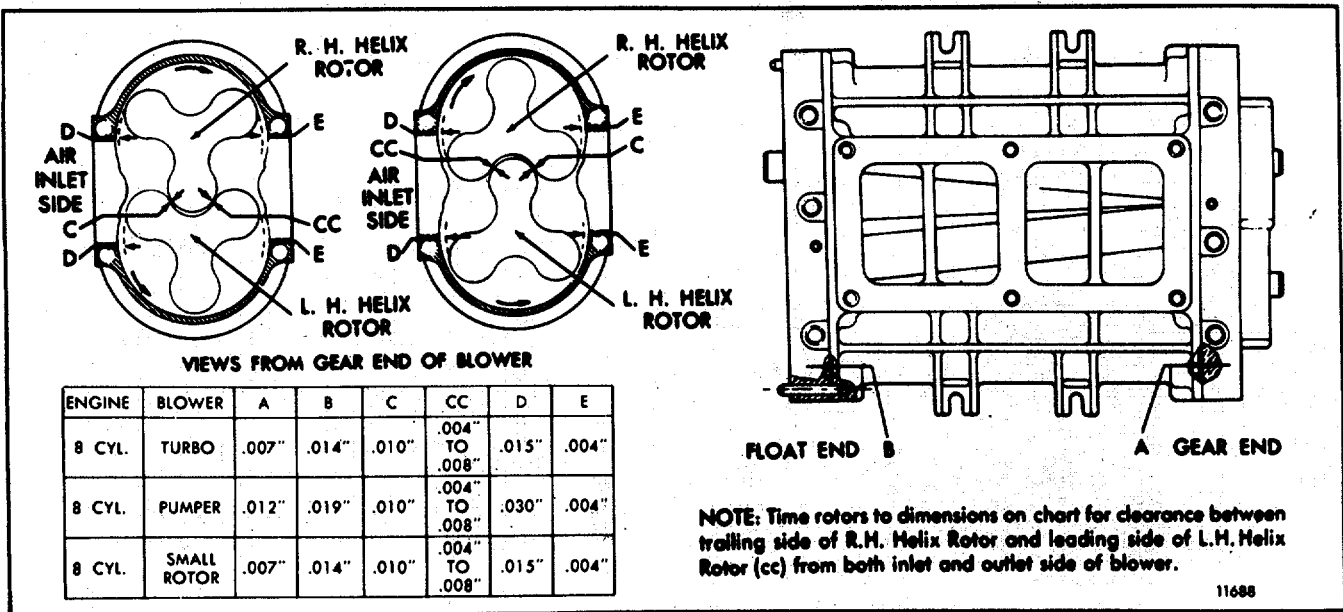
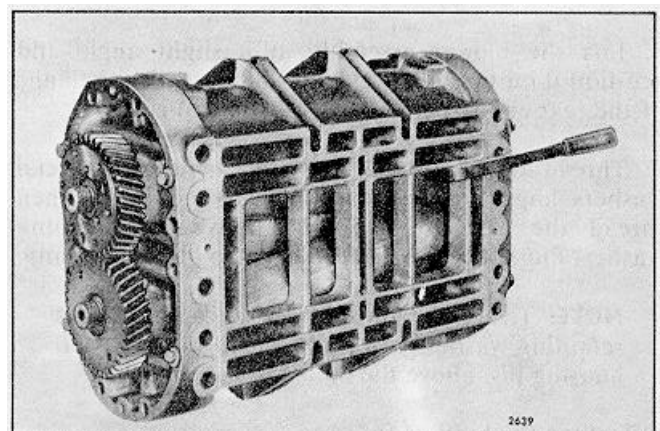

FIG. 19 - Chart of Minimum Blower Clearances
FIG. 21 Measuring End Clearance Between Blower Rotors and End Plate
4. Make a preliminary check of the rotor-to-end plate and rotor-to-housing clearances at this time with a feeler gage as shown in Fig. 21. Refer to Fig. 19 for minimum blower clearance.
8. Determine the minimum clearances at points "A" and "B" shown in Fig. 19. Insert the feeler gages, as shown in Fig. 21, between the end plates and the ends of the rotors. This operation must be performed at the ends of each lobe, making 12 measurements in all. Refer to Fig. 19 for the minimum clearances.
9. Check the clearance between each rotor lobe and the blower housing at both the inlet and outlet side --12 measurements in all. Refer to Fig. 19 for the minimum clearances.